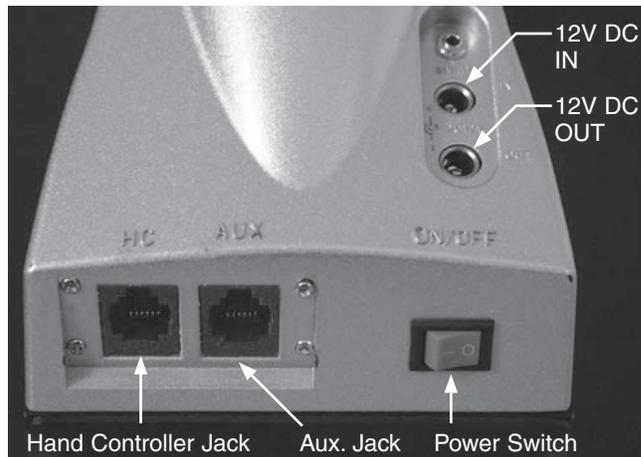

Figure 4b: Connector Ports on the TeleTrack AZ-G GoTo Mount
7. Attach the other end of the connector into the jack labeled "HC" on the TeleTrack AZ-G mount head (Figure 4b).
If you are using a portable battery like the Orion Dynamo Pro, use the Dynamo’s supplied 12V DC power cable (cigarette lighter plug on one end, standard 12V DC power plug on the other end) to connect the battery to the 12V “DC IN” (Figure 4b) power jack on the side of the mount. Make sure the Dynamo’s power switch is in the “off” position when connecting cables. Power the TeleTrack AZ-G on by pressing the red on/off switch to the “on” position
or camcorders. It accepts a DC power plug (tip positive) and provides 12V DC power output. To power a 12V accessory with the TeleTrack AZ-G, simply plug the accessory’s 12V DC power cable into the “DC OUT” (Figure 4b) jack on the side of the mount.